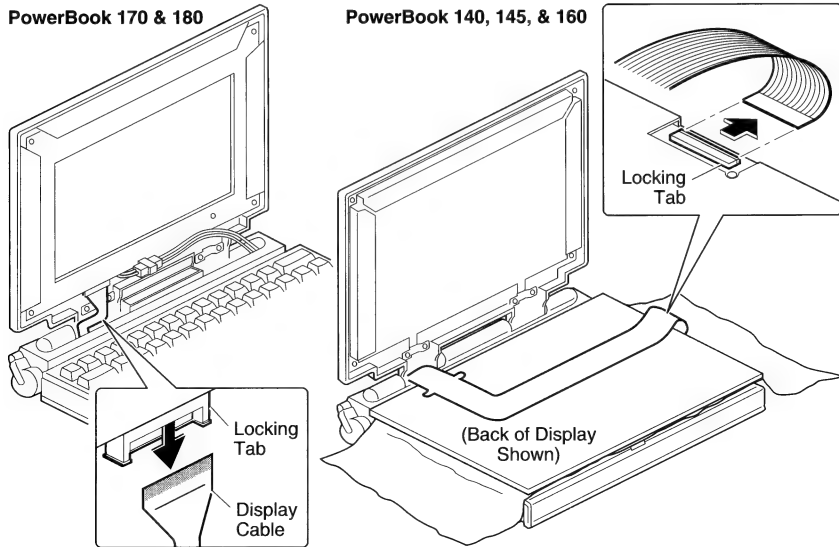

Figure 9 Opening the Locking Tab
5. Lift the locking tab on the display connector and disconnect the display cable (Figure 9).